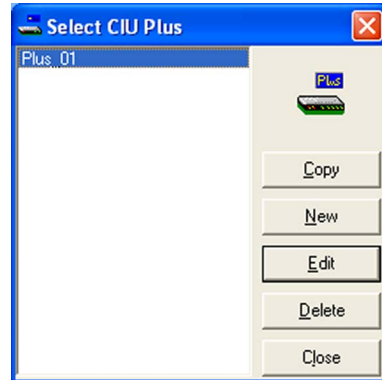

FIGURE 2-5
1. Click  (**Configure CIU Plus**) in the Ensite Pro toolbar. The *Select CIU Plus* window is displayed FIGURE 2-5.